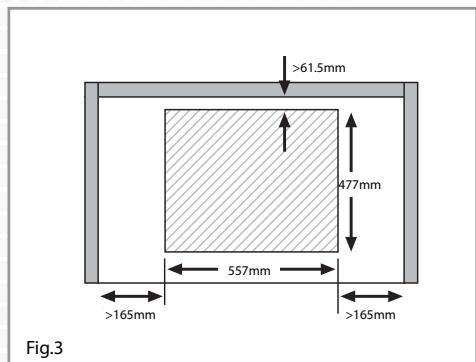

Fig.3
1. Make the required hole in the worktop. Note that before doing this, check the instructions supplied with any cooker hood to ensure that you will have the required clearance. The cut-out (Fig 3) shows a 61.5mm gap from the wall to the cut-out edge. The distance for the hob, when fitted, to the back wall is 50mm.